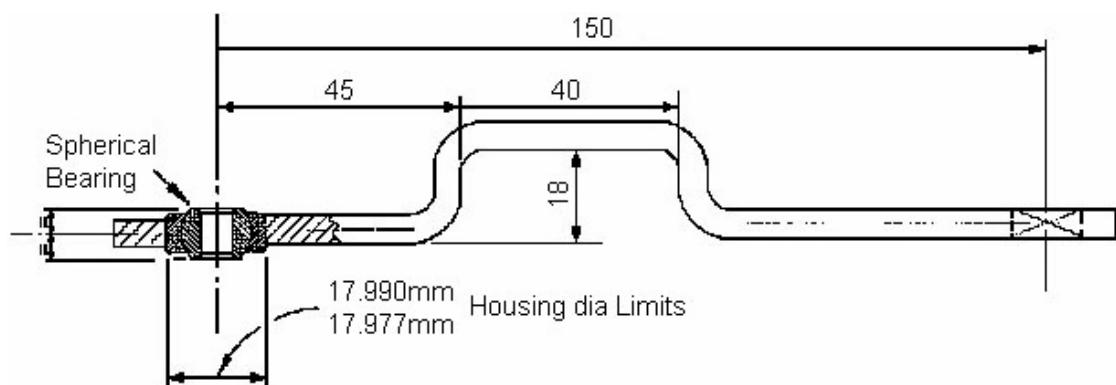

Figure 2: Levelling Valve Actuating Lever
- 1.1 Check that lever is undamaged and conforms to Figure 2.